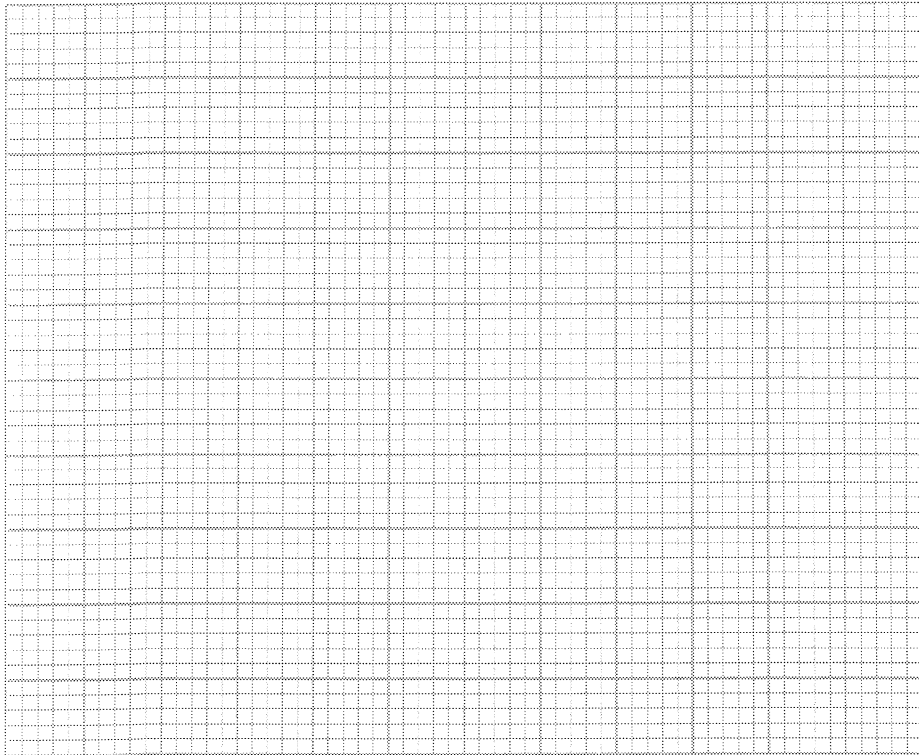

Figure 12.3 Polarity testing of consumer mains
- Draw the circuit arrangement for performing the test in Figure 12.3.